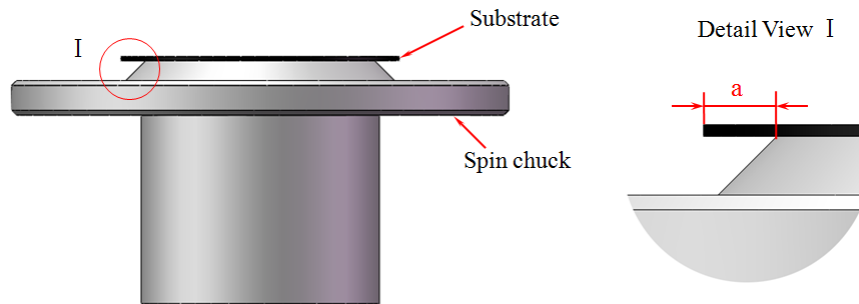

Fig.5 Substrate Placing diagram
- 4、 Substrate placing: place the substrate on the right size spin chuck, as shown in fig.5, ;
- Substrate diameter must be 2mm to 4mm lager than the spin chuck diameter, as shown in fig.5: $a \geq 1 \sim 2\text{mm}$